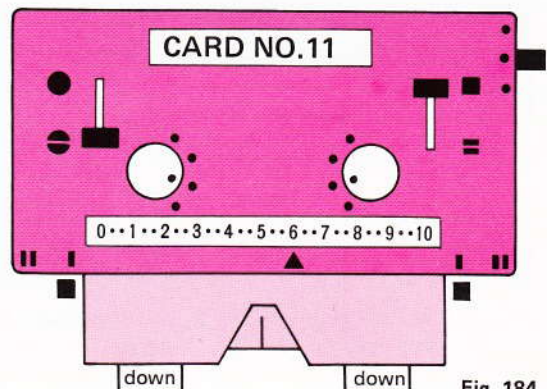

Fig. 184
8. Set carriage as in fig. 184 (returning levers on 'normal') and push carriage from right to left. The needles are selected.